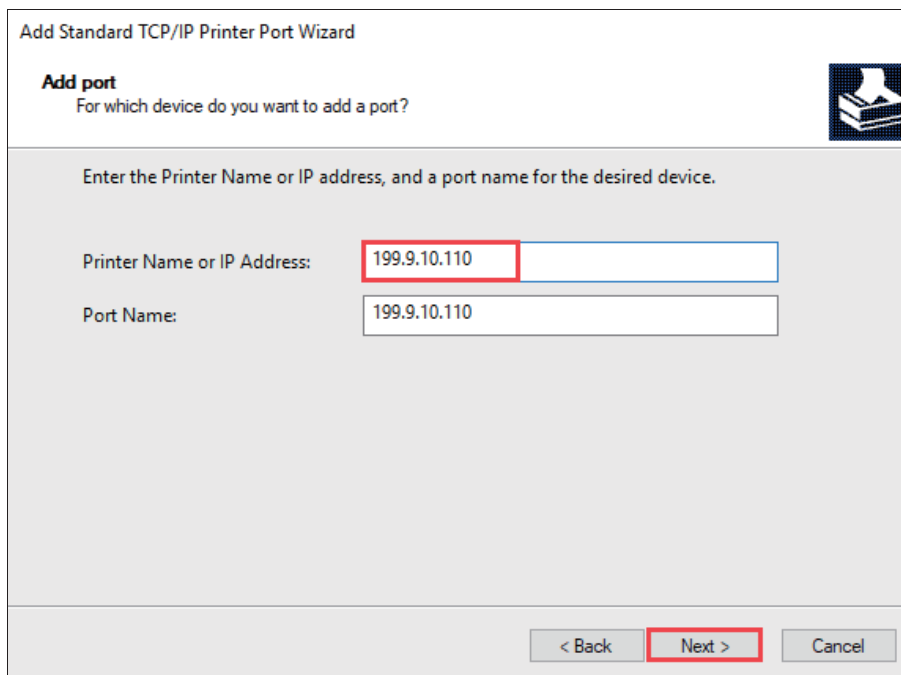

Figure 2-39 Add Port Screen
7. On the “Add Port” screen, enter the IP Address of the printer (Note: the IP address here must be consistent with the IP address of the printer that has been set, and the port name will be generated automatically), and then click “Next”, as shown in Figure 2-39.